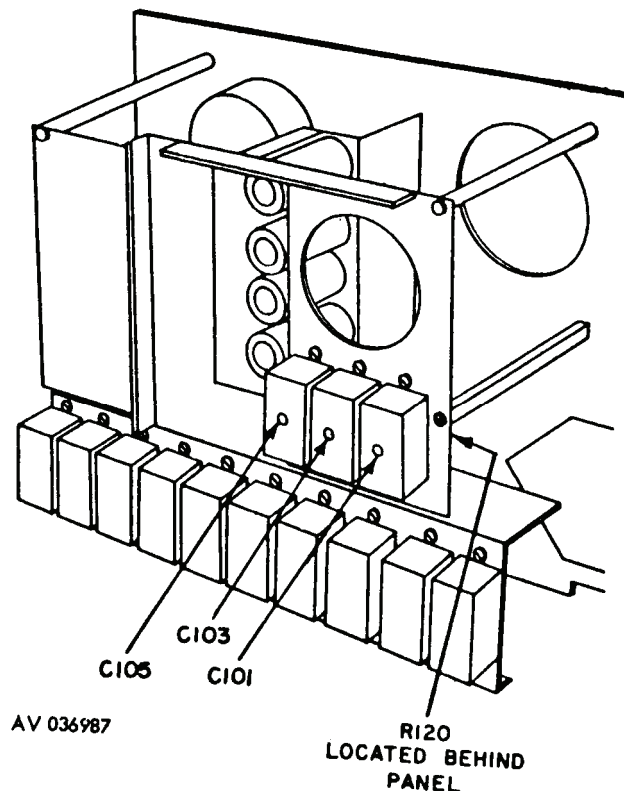

Figure 3. Consolidated Airborne Systems, Models TF20-1 and TF579 - adjustment locations.
- e. Set switches as listed in (1) through (3) below:
- (1) **FUNCTION SELECTOR** to **CAP IND-ZERO CAL.**
- (2) **CAP RES CHECK** to **CAP.**
- (3) **CAPACITANCE INDICATOR-RANGE SELECTOR** to **X1.**
- g. Set **CAPACITANCE INDICATOR-RANGE SELECTOR** switch back and forth through its four ranges. If meter does not indicate zero, adjust R120 (fig. 3) for minimum shift of pointer.
- b. Adjustments.** Adjust C101 (fig. 3) for a capacitance indication of 100 pF.